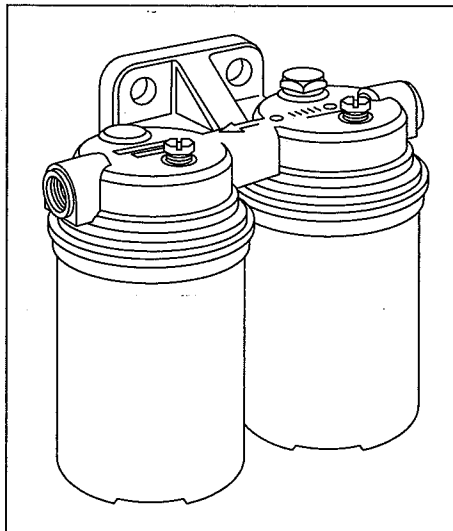

Figure 7-3:
3. Fuel pumps deliver the fuel from the fuel tank to the engine. On its way, the fuel passes through a couple of fuel filters (see Figure 7-3) that clean it before it can get to — and clog up — the fuel injector nozzles (see Figure 7-4). Proper maintenance of these filters is especially important in diesels, because fuel contamination can clog up the tiny holes in the injector nozzles.